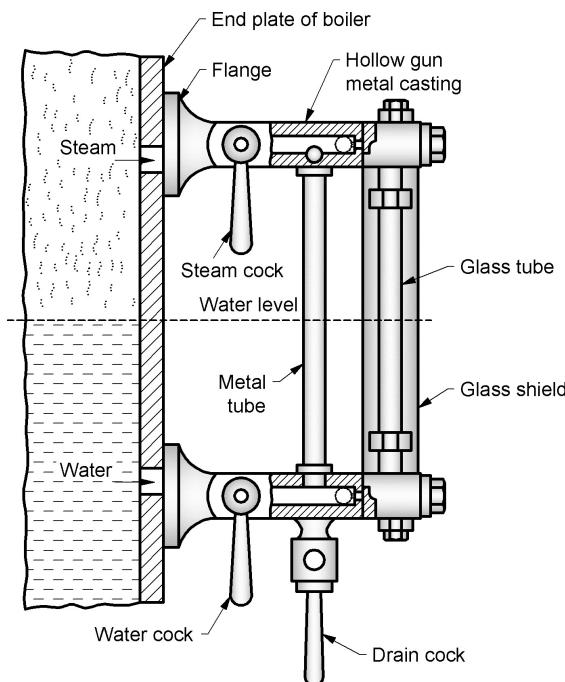

Fig. 2.2 Water level indicator
- (1) Fig. 2.2 shows schematic diagram of water level indicator. Two water level indicator are provided on all the boilers.
- (2) The water level indicator is attached to front plate of the boiler. It consists of a metal tube and a
- (1) When the steam cock and water cock are opened, the two balls provided inside the gun metal casting remain in position as shown in Fig. 2.2.
- (2) So steam rushes from upper passage and water rushes from lower passage to the glass tube. The level of water inside the boiler will be same as seen in the glass tube.
- (3) In case glass tube breaks accidentally, water and steam simultaneously rush out through gun metal casting.
- (4) Force is exerted on two balls any they are carried away by water and steam, closing the passage as shown by dotted balls in Fig. 2.2. Water and steam cocks are then closed and glass tube is replaced.